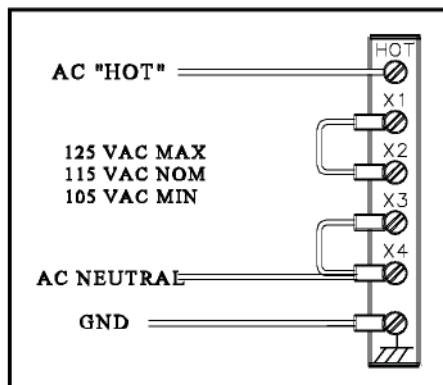

FIGURE 4: HOOKUP FOR 110VAC
2. Place the RED meter lead on (between) the Sense Resistor (labeled Rs in Figure 4).